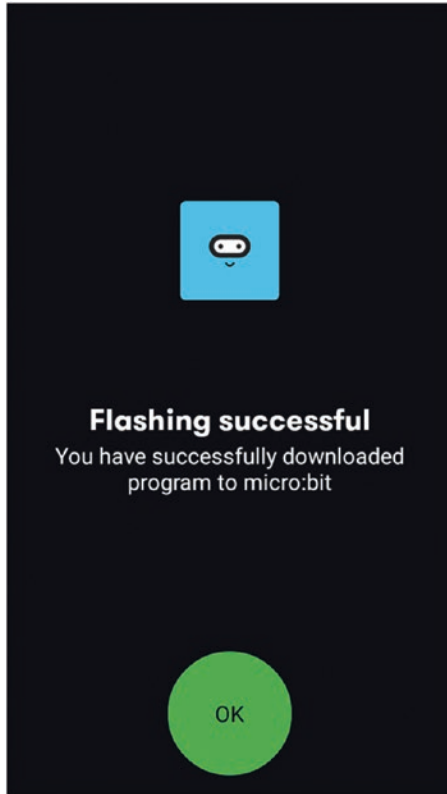

Figure B-18. *Flashing successful message*
8. Tap the OK button to disconnect the micro:bit board from the app (see Figure B-18).